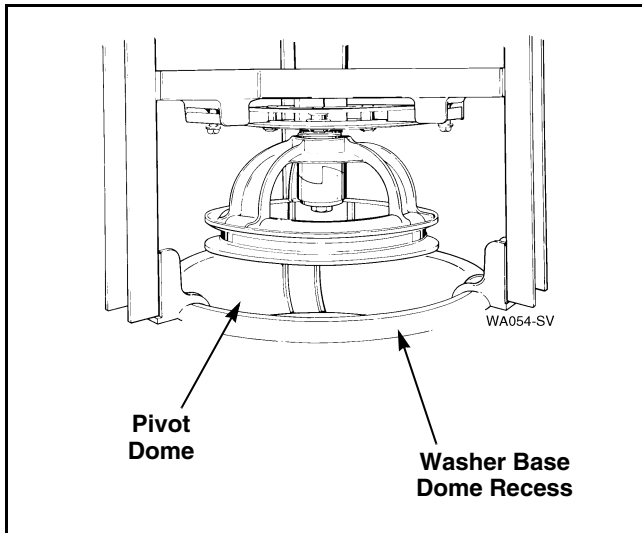

Figure 41
- Carefully place the tub module back into washer making sure the pivot dome is positioned properly in dome recess of the washer base. Refer to *Figure 41*.